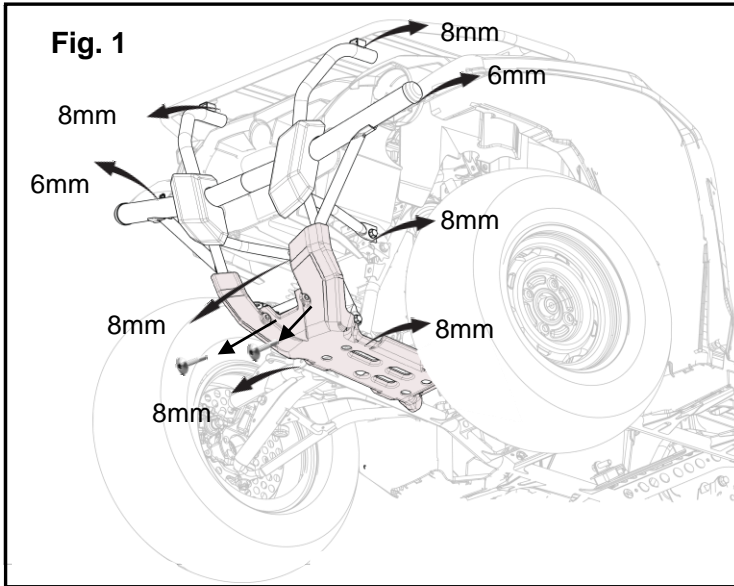

Fig. 1
1. Remove the 2 bolts that retain the front edge of the stock plastic bash plate. Let the front edge of the bash plate drop down. Retain the two bolts for reuse (Fig. 1).
2. Remove the 4 bolts on the left and 4 bolts on the right that hold the stock grab bar to the vehicle. There are six 8mm bolts and two 6mm bolts as shown in Fig.1. Retain these bolts for reuse. Remove the stock front grab bar. It will not be reused.